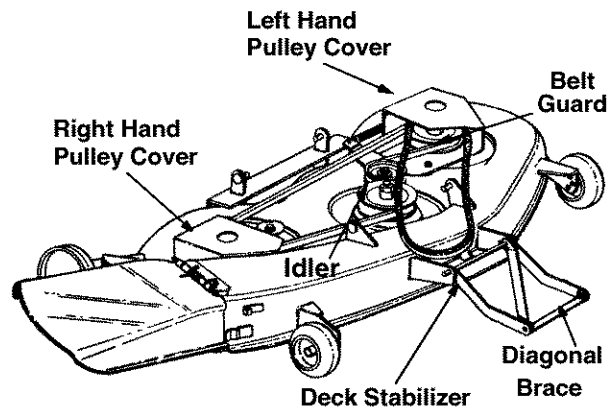

Figure 30
- Remove the left hand pulley cover by unhooking the spring and removing five self-tapping screws. See Figure 30.